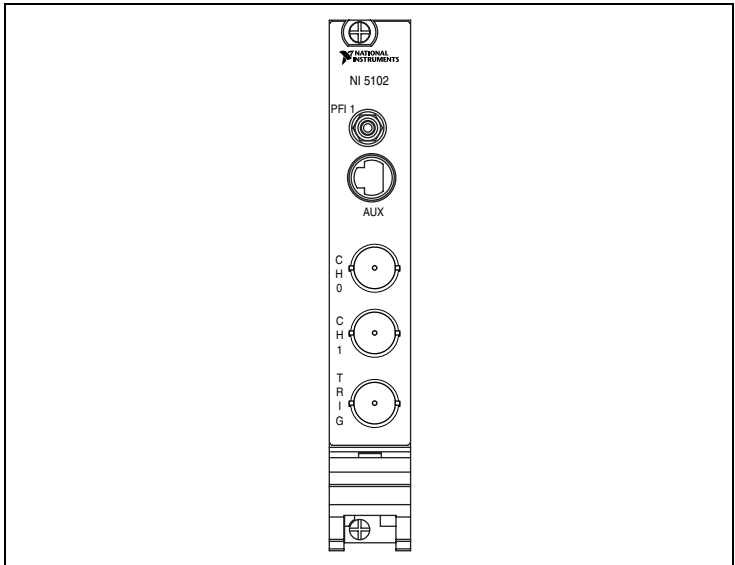
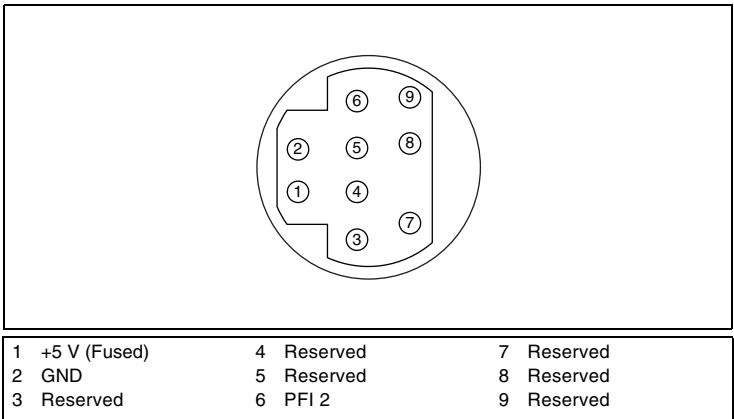
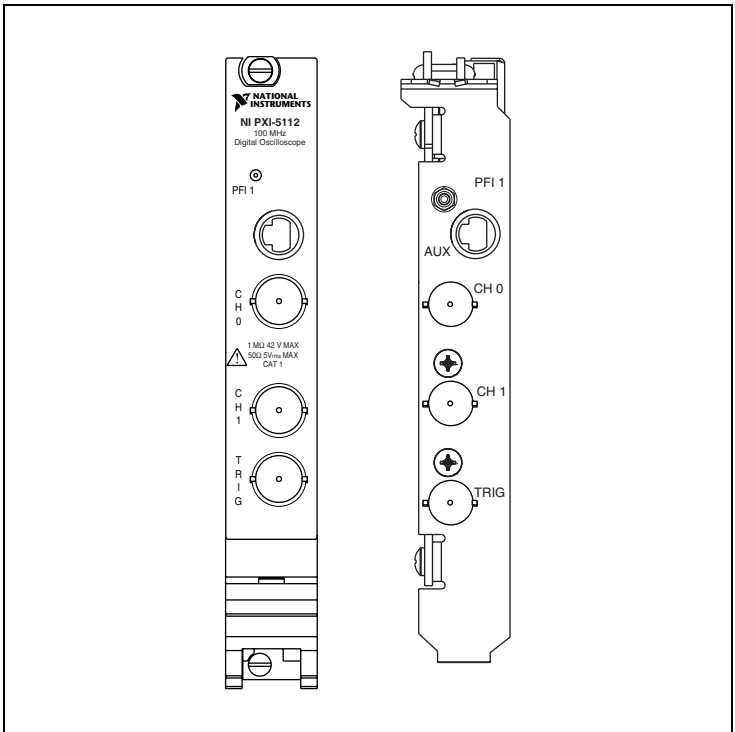
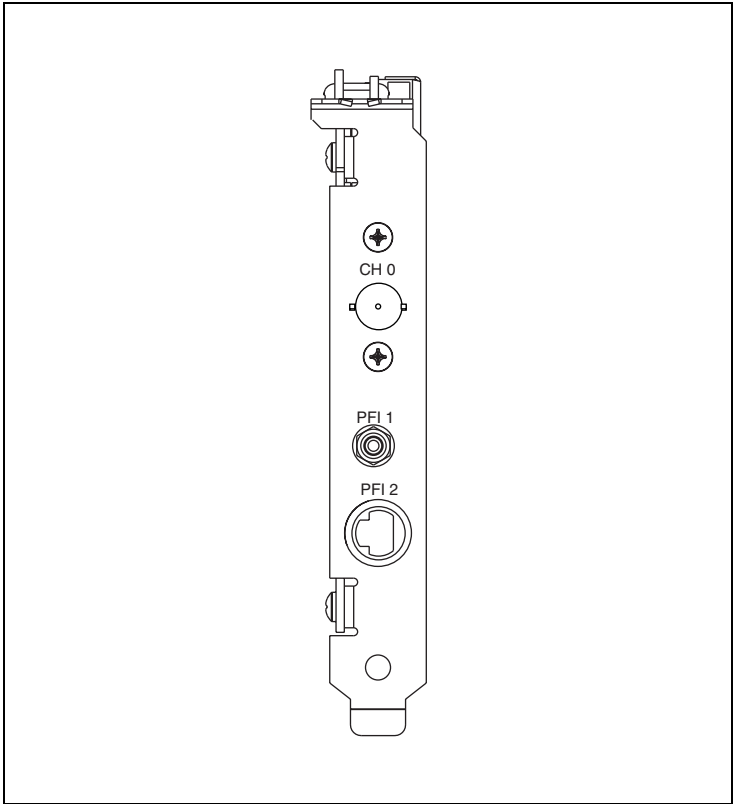

Figure 7. NI PXI-5102 Front Panel
Figure 8. 9-Pin DIN Connector for NI PXI-5102, NI PXI/PCI-5112, and NI PCI-5911
Figure 12. NI PXI/PCI-5112 Front Panels
Figure 17. NI 5911 Front Panel
- ◆ **NI PXI-5102**—Figure 7 shows the NI PXI-5102 front panel. Refer to Figure 8 for the AUX connector pinout information.
Figure 8 shows the pin assignments for the 9-pin DIN connector on the NI PXI-5102.
Figure 12 shows the NI PXI-5112 and the NI PCI-5112 front panels. Refer to Figure 8 for the AUX connector pinout information.
Figure 17 shows the NI 5911 front panel. Refer to Figure 8 for the PFI 2 (AUX) connector pinout information.